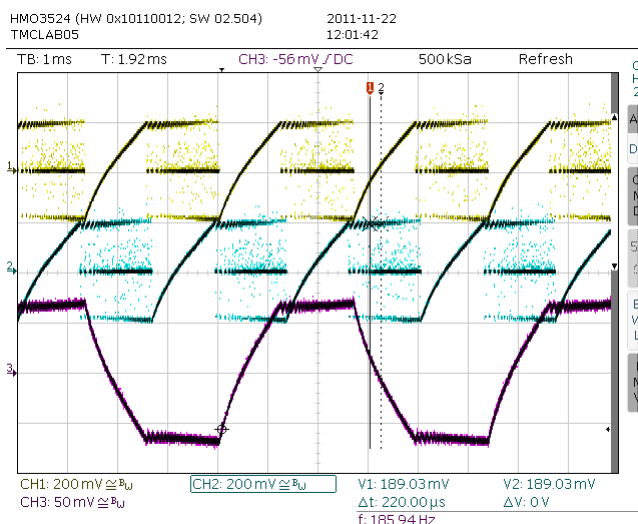

Figure 2.5 Motor in fullstep operation (CHM=0); CH1 & CH2: Sense resistor voltages, CH3: Current probe coil A
2. Try switching the motor to fullstepping, if your driver supports it. Make sure, that the driver coils see a fixed current. Therefore it is important to switch to fullstep at or near the fullstep positions (TMC26x based drivers) – compare Figure 2.5. Set *vhighfs* (for TMC5XXX drivers).